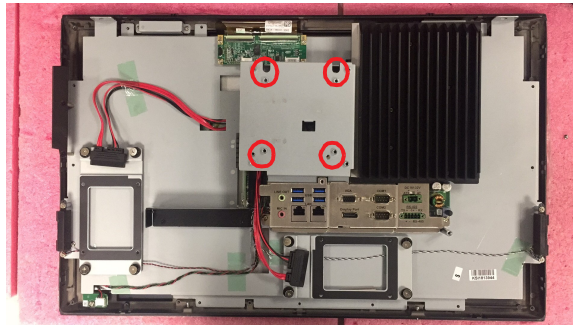

Figure 2.18
1. Follow the procedures in Section 2.3 to open the rear cover and remove the reinforcement plate (Figure 2.18).